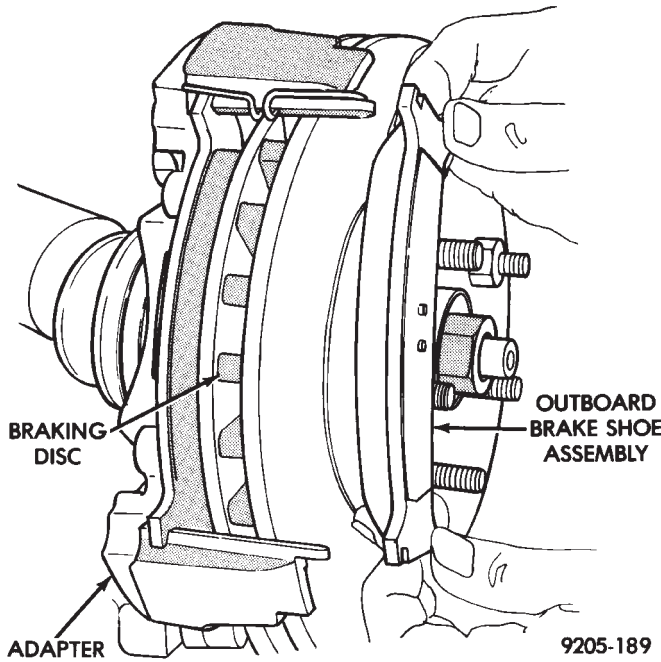

Fig. 5 Removing and Installing Outboard Shoe Assembly
(8) Remove the outboard brake shoe assembly from the caliper adapter (Fig. 5).